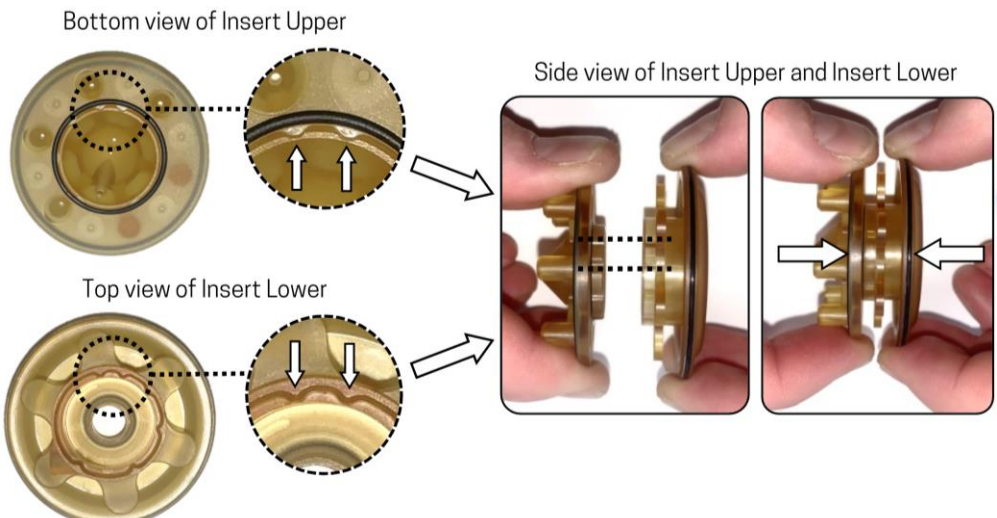

Figure 23. Assembling the lower and upper portions of the GEN2 Respirable 2 L min⁻¹ inlet insert.
- a) Index the notches and grooves on the upper and lower portions of the respirable insert as shown in Figure 23. Once the upper and lower portions are indexed properly, press them back together.